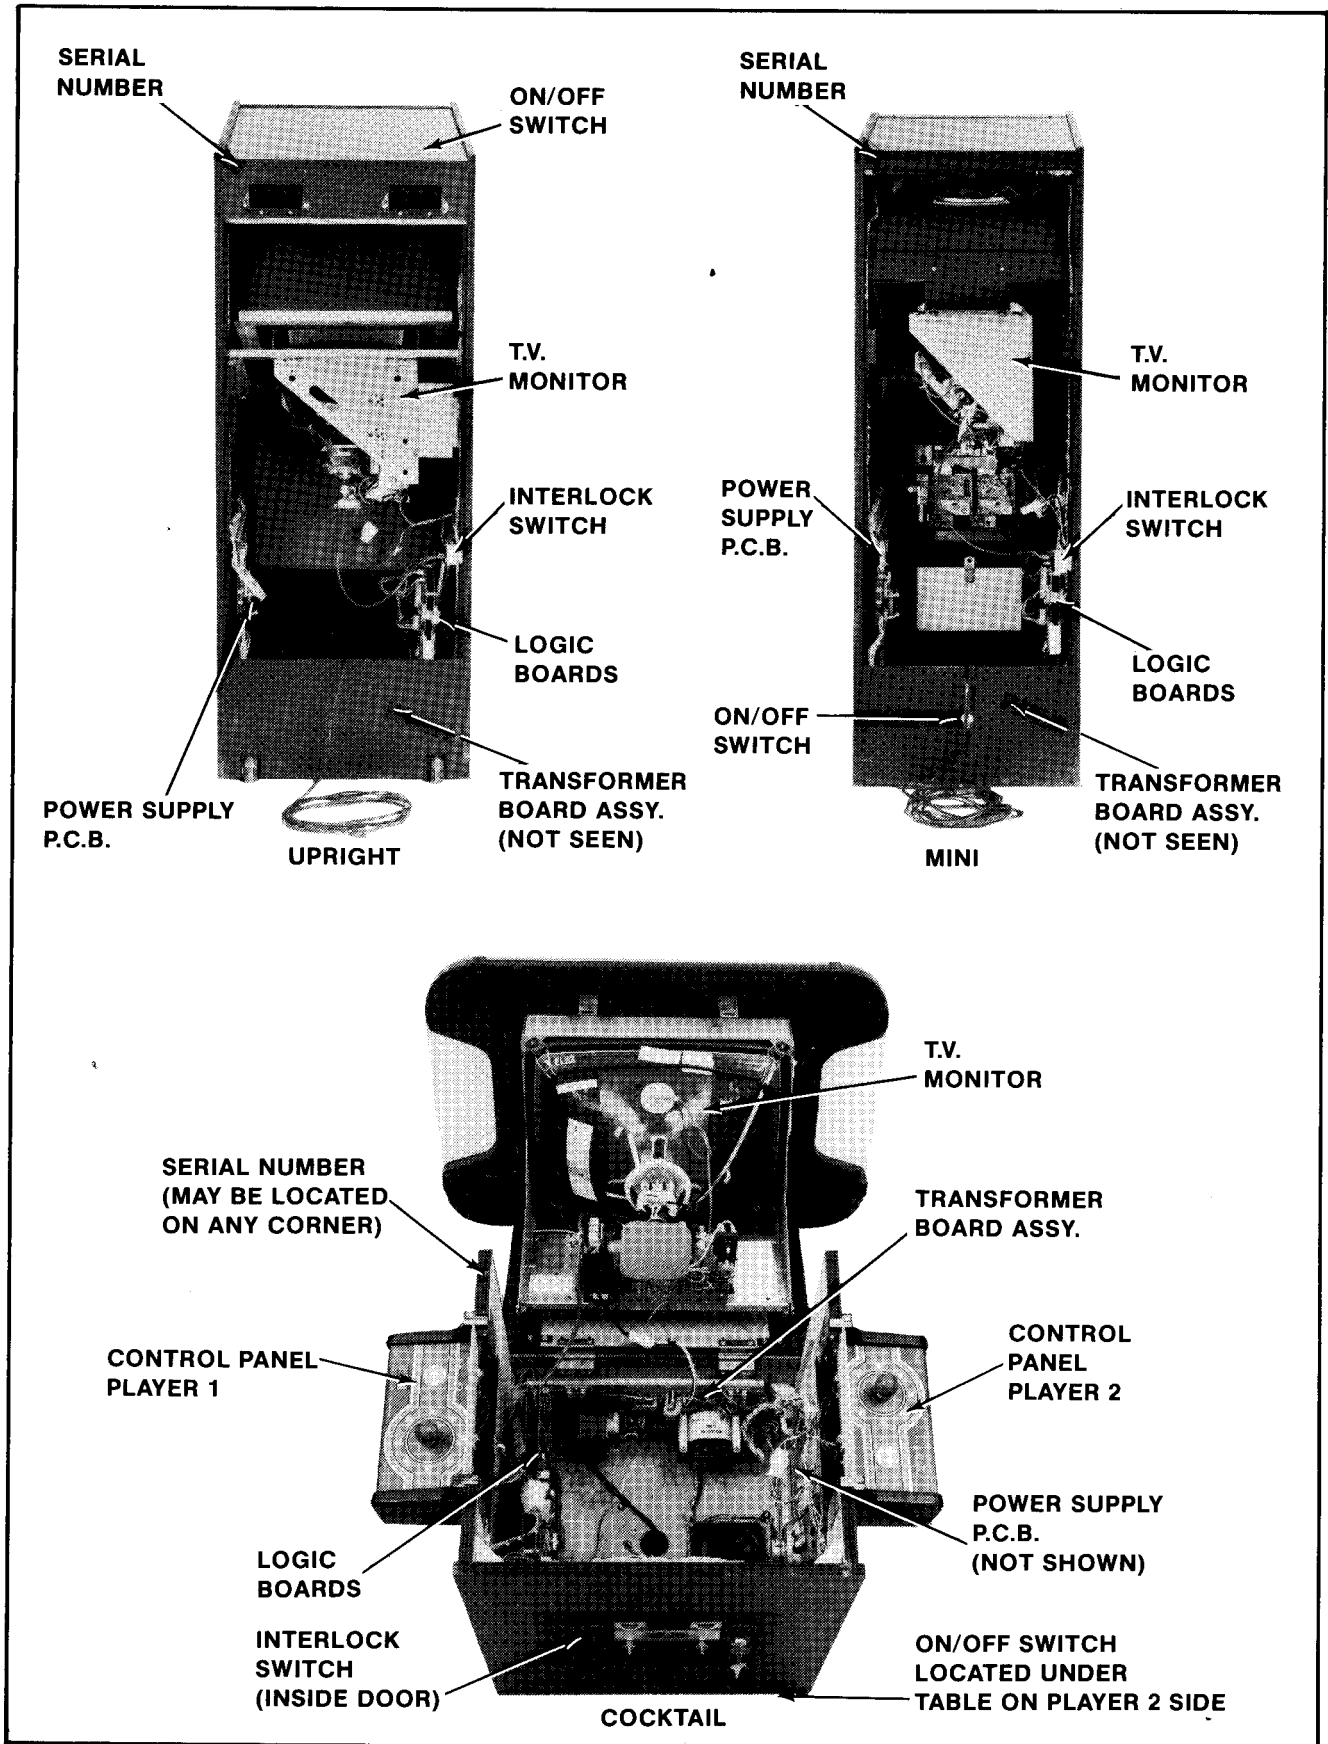

Figure 2-1 Location of Serial No., Interlock Switch, On/Off Switch, & Major Sub-Assemblies
2-2 Major Sub-Assemblies (Cont. from Fig. 2-1) .....	2-3
5. Open the cabinet and inspect the inside of the game for any signs of damage. See Figure 2-1.
- Note the location of the game's serial number. See Figure 2-1.
- Check all major subassemblies to be sure they are mounted securely. These are called out in Figures 2-1 & 2-2.
### 3. Interlock and power ON/OFF switches. See Figure 2-1.
The game ON/OFF switches for all models are located as shown in Figure 2-1. Turn the game on and allow it to warm up a few minutes.